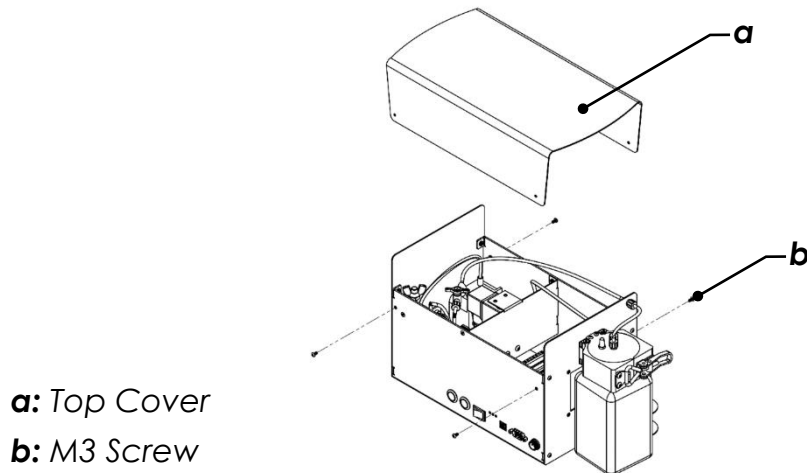

Figure 5
- 2) Unscrew the 4x M3 screws as shown in Figure 5 and take the top cover off.